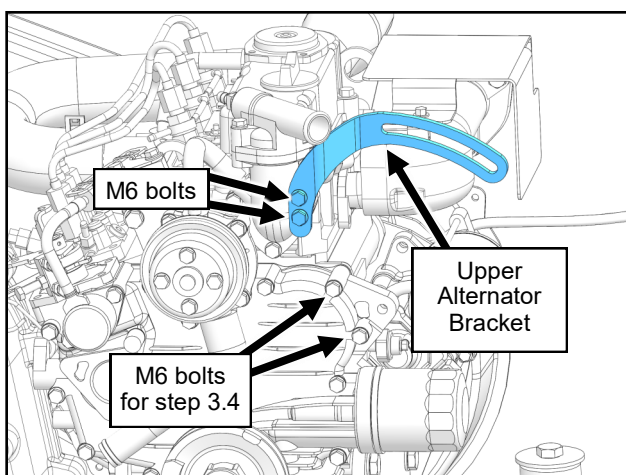
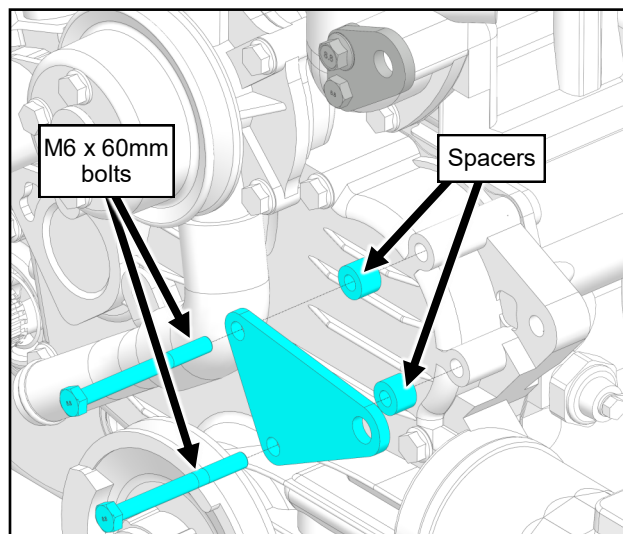

Fig. 3.2 (Remove Upper Alternator Bracket)
Fig. 3.4 (Alternator mounting bracket)
- 3.2 Remove two M6 bolts holding the upper alternator bracket. Shown in Figure 3.2.
- 3.4 Remove and discard two M6 bolts from the engine as shown in Figure 3.2 and install the lower front alternator mounting bracket and spacers as shown in Figure 3.4. Tighten bolts.